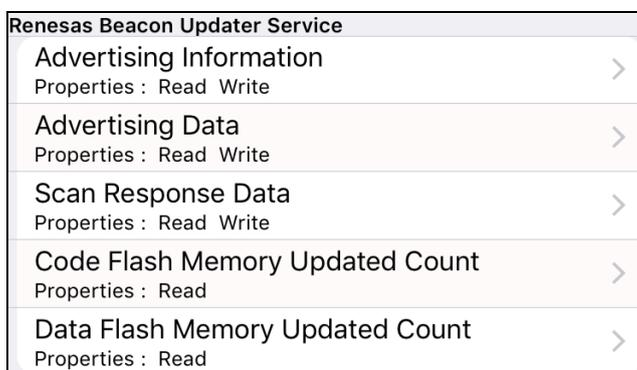

Figure 6-50 Display of RL78/G1D Beacon Stack Connecting and Updating Beacon Data Sample Program
P.25	"Table 6-9 UUID of RL78/G1D Beacon Stack Connecting and Updating Beacon Data Sample Program" Add description of "Scan Response Data". "Figure 6-50 Display of RL78/G1D Beacon Stack Connecting and Updating Beacon Data Sample Program" screen replacement. (Add information of "Scan Response Data".)